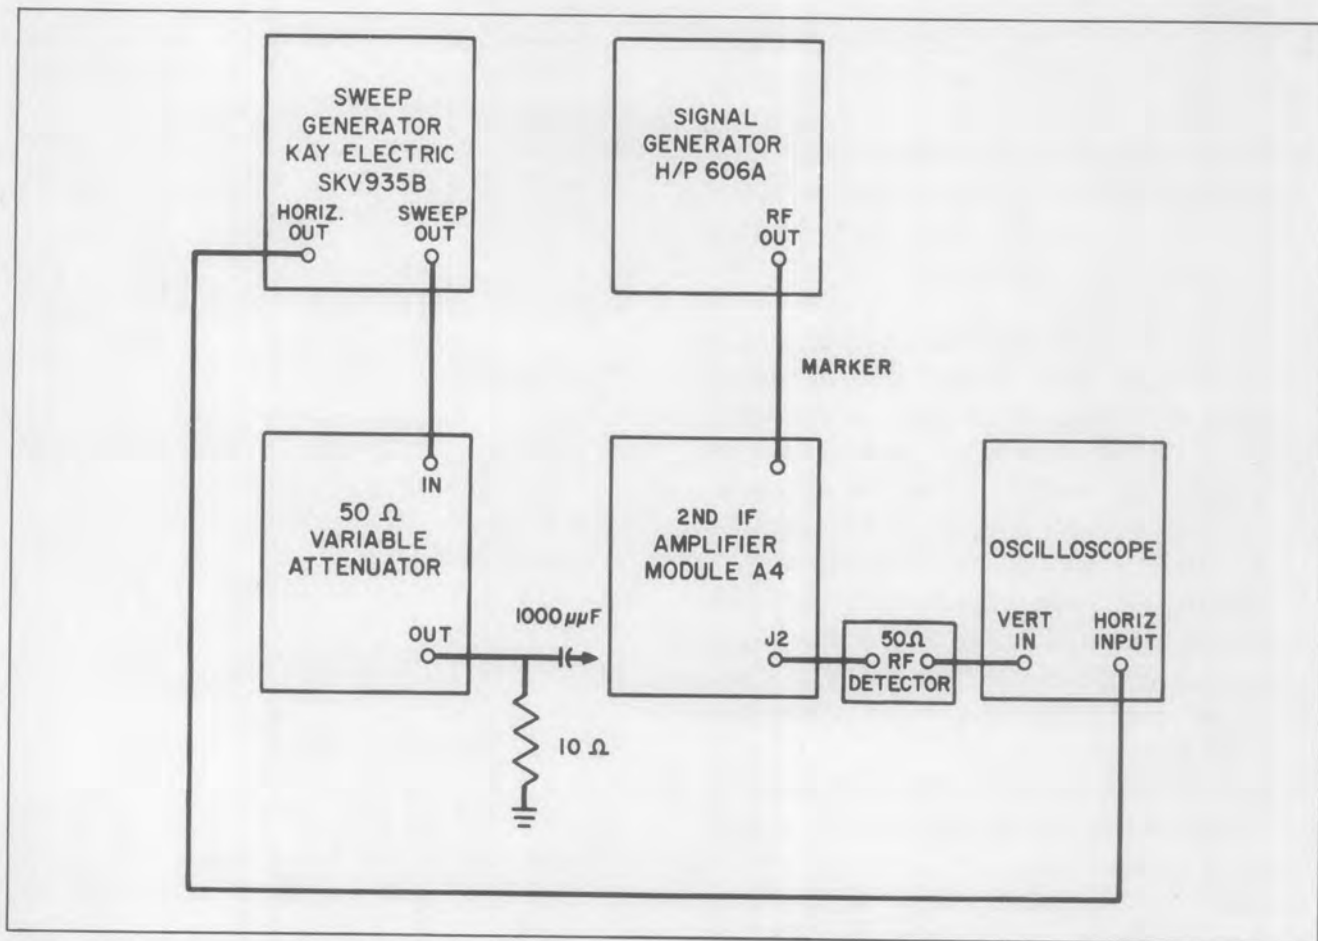

Figure 9. Second IF Amplifier Test Set Up
3. Connect the test equipment as shown in figure 9. Solder the 1000 uuf capacitor to TP2 on module A4 (figure 15).